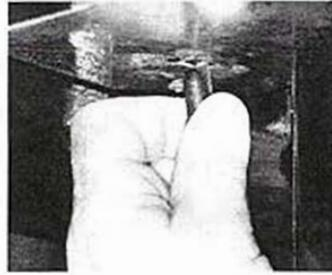
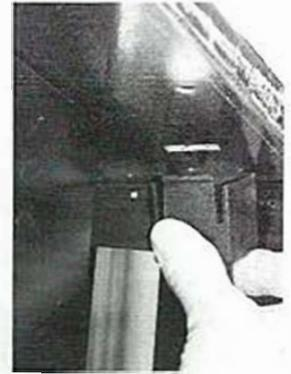

Fig. 1
Fig.2
With reference to the drawing (fig. 1), the air is drawn in through the back side of the dehumidifier, then it passes through the **filter** (1), through the aluminium refrigerated coil or **evaporator** (2), again through the heat-exchanger or **condenser** (3). Finally, the **motor fan** (4) expels the air back into the room through the front grilled panel: The condensed water is collected in the **tank** (5). A **micro-switch** (6) stops the machine when the water in the tank reaches the correct level by raising the water float lever. The **humidistat** (7) starts the functioning of the dehumidifier when the humidity is higher than the preset level. An **electronic circuit** (8) controls the defrosting and prevents the **compressor** (9) repeated starts within too short a time by delaying each new start. Some models have a different water tank stop device and use a gravity system ( fig. 2) instead of the floating ball.